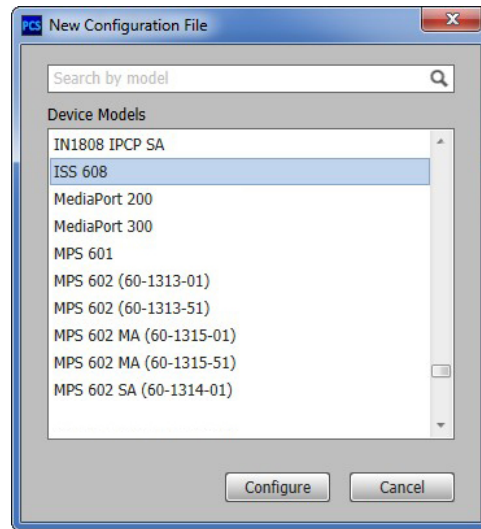

Figure 32. New Configuration File Dialog Box
The New Configuration File dialog box opens (see figure 32).
2. Select the desired device model from the **Device Models** list (see figure 32).